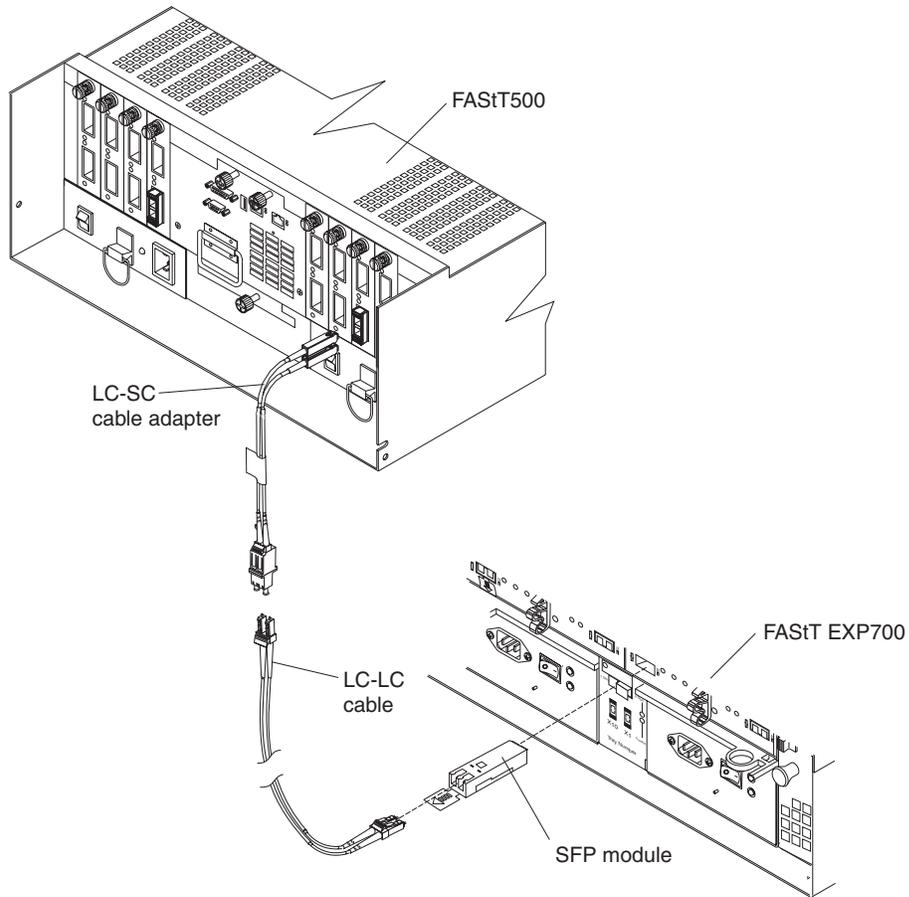

Figure 31. Connecting the FAST500 to the FAST EXP700
2. Using Figure 31 on page 32 as a guide, complete the following steps to connect the FASTt EXP700 to a FASTt500 RAID controller: